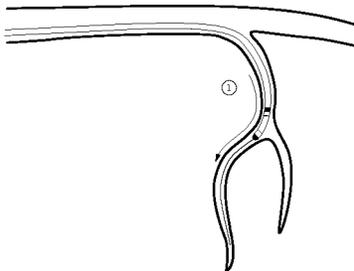

Figure 17. Using a guide wire within a branch vein.
1. Advance the lead through the major branch vein using the shape of the lead alone or by tracking over a guide wire extended ahead of the lead (Figure 17).